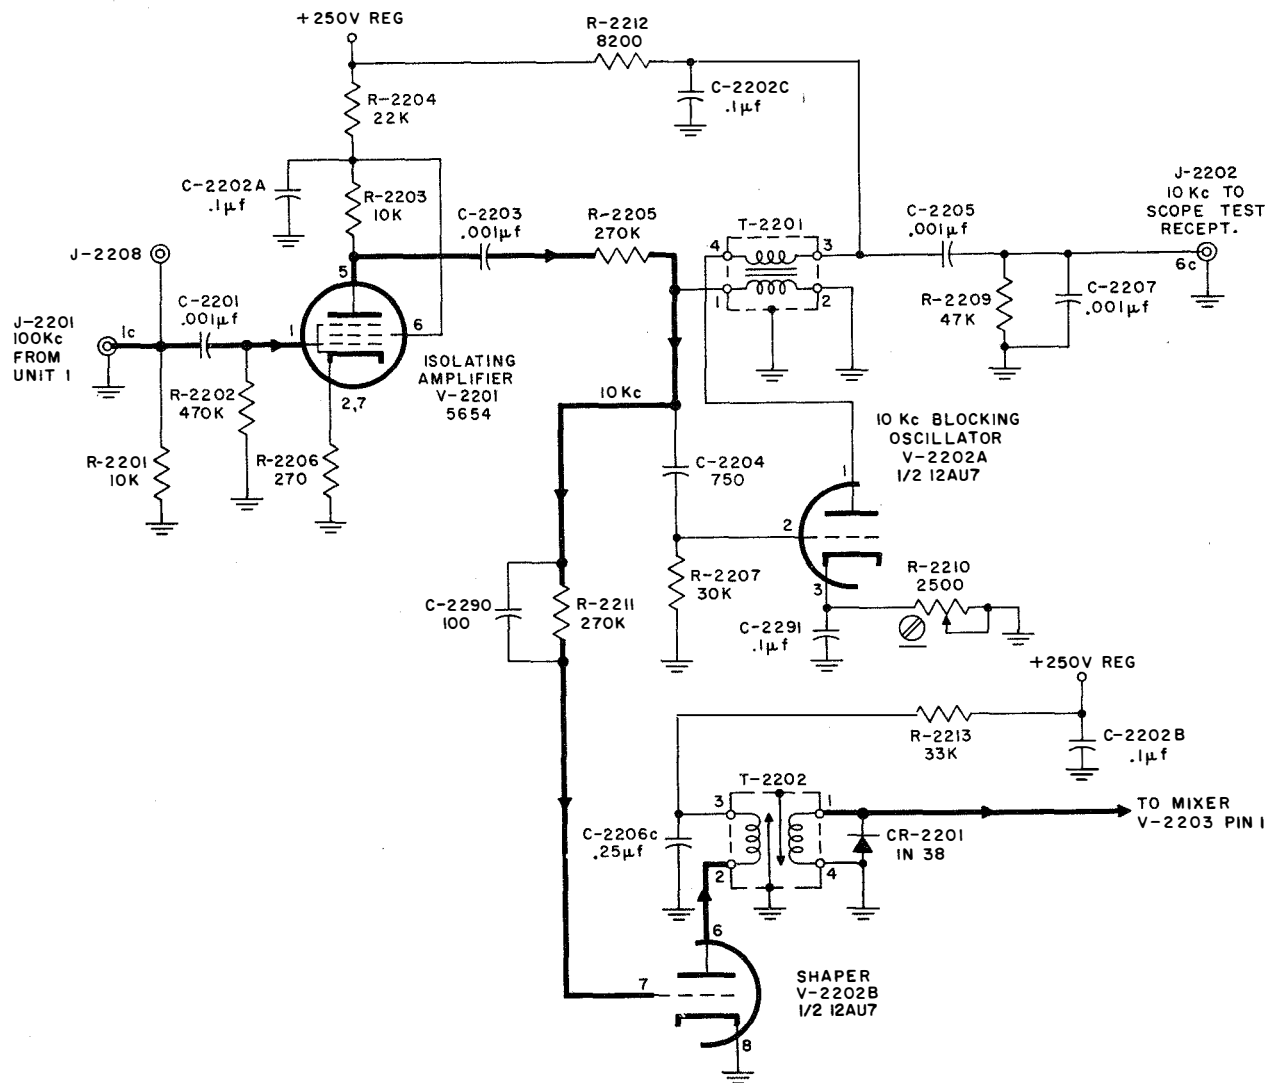

Figure 2-16. RFO Unit 6, Isolating Amplifier V-2201, Shaper V-2202B and 10-Kc Blocking Oscillator V-2202A, Simplified Schematic
(1) ISOLATING AMPLIFIER V-2201.—The 100-kc signal (1c) from unit 1 is coupled by C-2201 to the grid of isolating amplifier V-2201 (figure 2-16). Test point J-2208 is provided for testing input 1c (approximately 7.4 volts). Amplifier V-2201 isolates blocking oscillator V-2202A from the crystal oscillator in unit 1, and provides sufficient output voltage to synchronize the blocking oscillator to exactly 1/10 of the crystal frequency.
(2) BLOCKING OSCILLATOR V-2202A AND SHAPER V-2202B. — When blocking oscillator V-2202A (figure 2-16) begins to conduct, plate current begins to flow through the plate winding of T-2201. This induces a positive voltage on the grid through transformer T-2201 and C-2204, and, as a result, the plate current increases further, inducing a larger positive